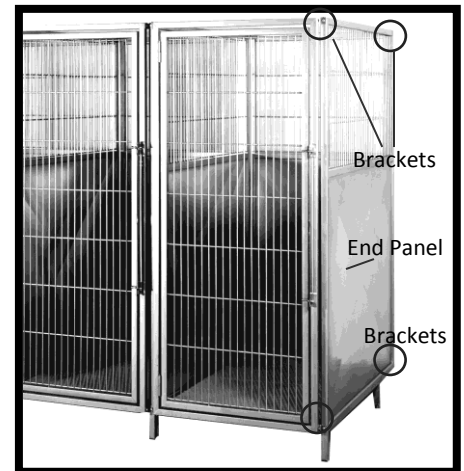

Figure 57: Brackets Holding the End Panel to the Pen System
1. With a 1/2in. wrench, remove the cap screws that hold the end panel to the brackets on the pen system (Figure 57). **Note:** If the pen system is back-mounted to a facility wall, disconnect the panel from the brackets to the wall.